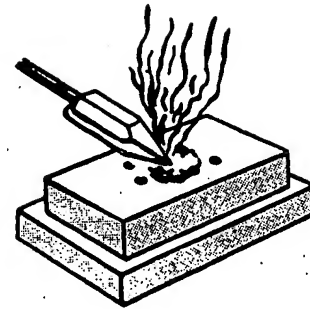

Figure 6-4.—Tinning a copper (solder placed on cake of sal ammoniac).
6. Rub each filed side of the copper back and forth across a cake of sal ammoniac, as shown in figure 6-4.